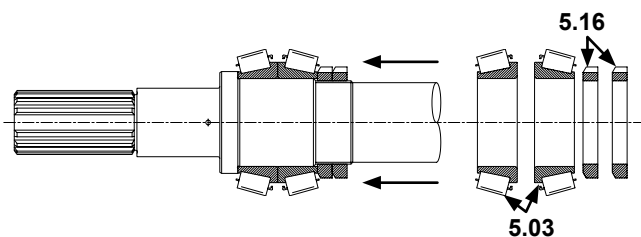

FIGURE 43
- Install the bearing cones (5.03) see Figure 43 and secure using the two locknuts (5.16) see section 6.2 for torque settings.